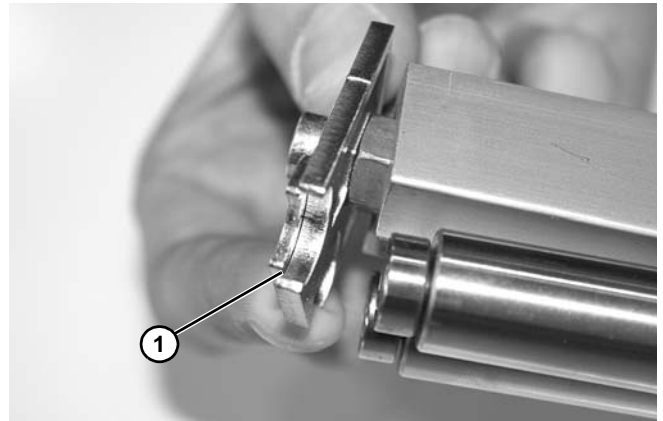

**Figure 110**
5. Remove lower screw (**Figure 110, item 1**) and remove tail nut bar (**Figure 110, item 2**) and side plate (**Figure 110, item 3**).
During reassembly, make certain that the tail nut bar nipple (**Figure 110, item 4**) is inserted into the support bar hole (**Figure 110, item 5**).
10. Assemble and install head plate in reverse order of removal. Use a 4 mm hex-key wrench to tighten lower screw (**Figure 110, item 1**) to 30 in-lb (3.4 Nm). Leave two fastening screws (**Figure 109, item 2**) loose for belt tensioning.